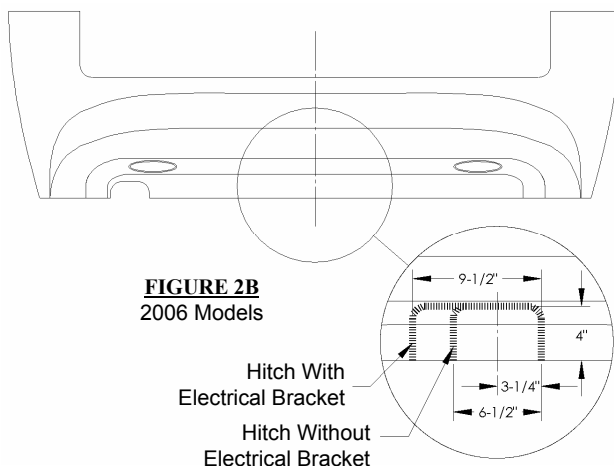

FIGURE 2B
- b. 2006 Models: trim the outer and inner fascia as shown in **Figure 2B**. When installing a hitch that has an electrical bracket, use the 9-1/2" wide profile. When installing a hitch without an electrical bracket, use the 6-1/2" wide profile. In both cases, measure about the fascia centerline as shown.